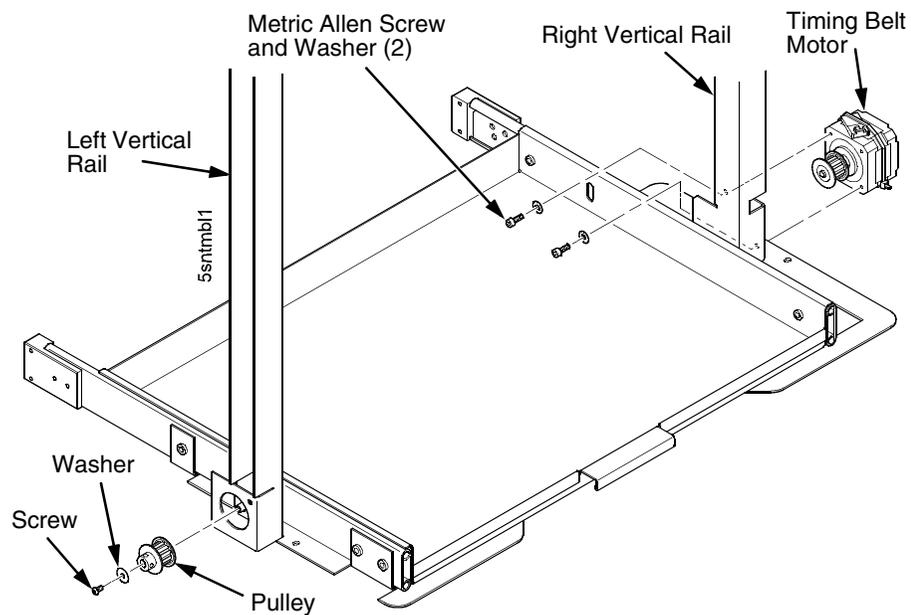

Figure 98. Removing the Timing Belt Pulley and Motor
3. If you are removing the left timing belt, remove the screw and washer from the pulley at the bottom of the left vertical rail, and remove the pulley. (Figure 98.) Go to step 6.
4. If you are removing the right timing belt, remove the two metric Allen screws that secure the timing belt motor to the right vertical rail. (Figure 98.) Go to step 5.